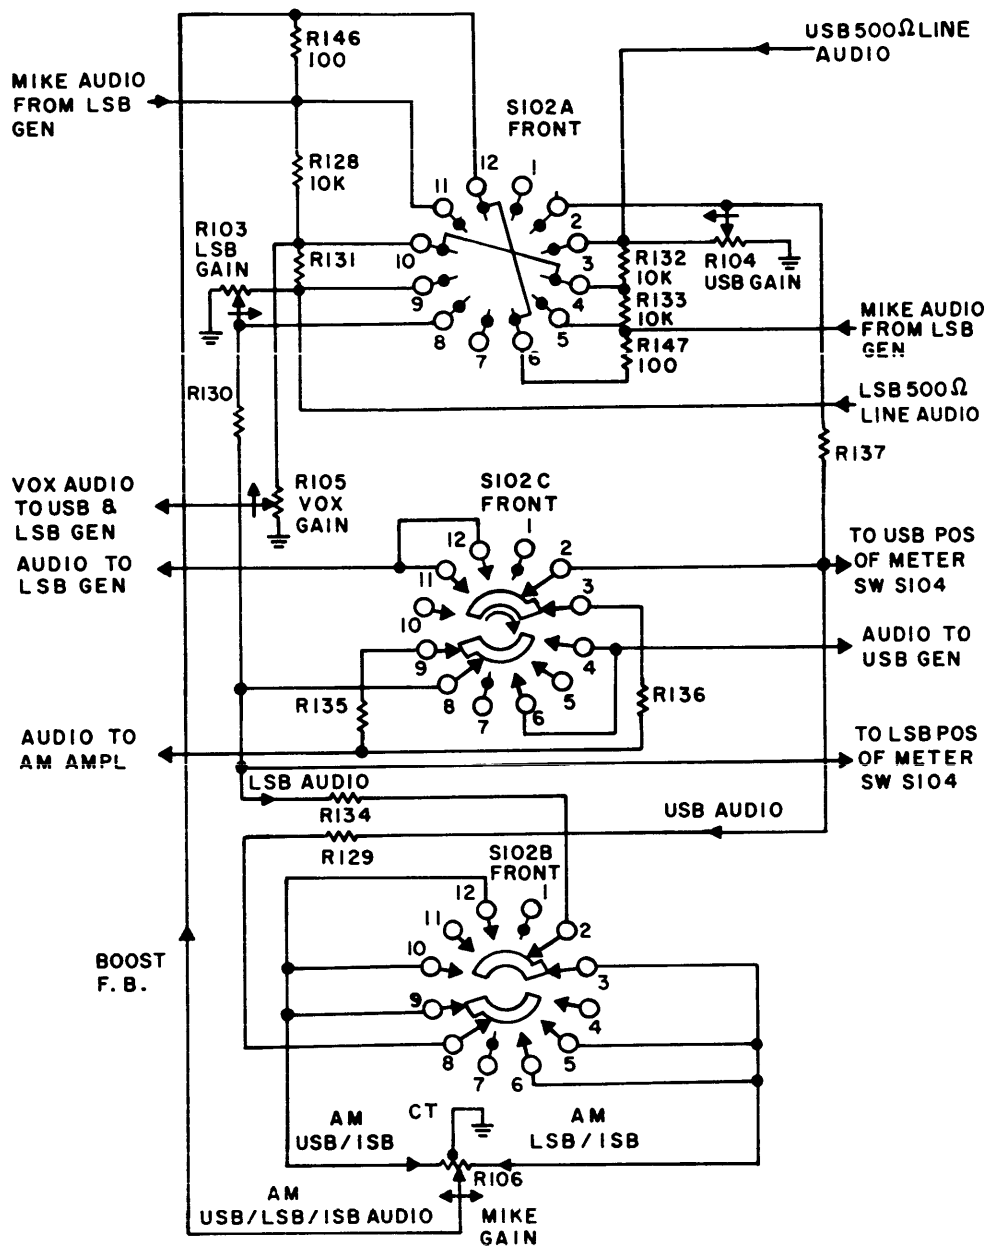

Figure 4-2. Audio Mode Switching, Simplified Schematic Diagram
(3) Whenever voice operated (VOX) modulation occurs, either through the external microphone or the 600-ohm audio input line, VOX audio appears at the VOX circuit input via J105 pin 12 from the MODE switching network. This audio signal is first applied to emitter follower Q29 and cascade-connected amplifiers Q22 and Q23, and then supplied to positive rectifier CR6; diode CR5 passes the negative half-cycle to ground. Thus, a positive, pulsating dc level is produced, and is applied to emitter follower Q24; the positive output from Q24 drives the Schmitt Trigger consisting of Q25 and Q26. The Schmitt Trigger is essentially a pulse-shaping circuit, in that it turns on quite rapidly whenever the positive audio level appears at the Q25 input, thereby producing a positive output gate whose duration corresponds to the length of time the audio input is present. The combination of C67 and R70 is a speed-up network which greatly improves the turn-on rise time and turn-off fall time of the output gate in response to the audio intelligence. The positive output gate from Q26 is applied to relay driver Q27, thus causing this stage to turn on and supply PTT-VOX relay K1 with the required ground for pull-in. As a result, with relay K1 energized whenever voice transmissions occur, a ground return through diode CR1 causes gate Q15 to turn on, thereby enabling sideband amplifier Q12 to amplify the upper or lower sideband output signal from Q11. In addition, the output ground from relay K1 is supplied as a PTT enable to TB105-14 and also causes PTT relay K101 to energize and complete an interlock via the TRANS terminals of TB103, terminals 5 and 6 to the external equipment.
c. MODE SWITCHING. (See figures 4-2, 4-3 and 7-1.) Mode switching for the SME-6 is accomplished by MODE switch S102, which selects the desired mode of operation (AM, USB, LSB, ISB, CW, FSK and FAX) by routing audio, subcarrier and certain enables to the proper circuits of the Exciter. Mode switching can be divided into areas of audio, present in the AM, USB, LSB and ISB modes, and the remaining modes of CW, FSK and FAX operation.
(1) In the audio modes (figure 4-2), microphone or 600-ohm line audio inputs from the upper and/or lower sideband generators are coupled to a respective divider network on MODE switch S102A (front). Consider upper sideband (USB) audio.